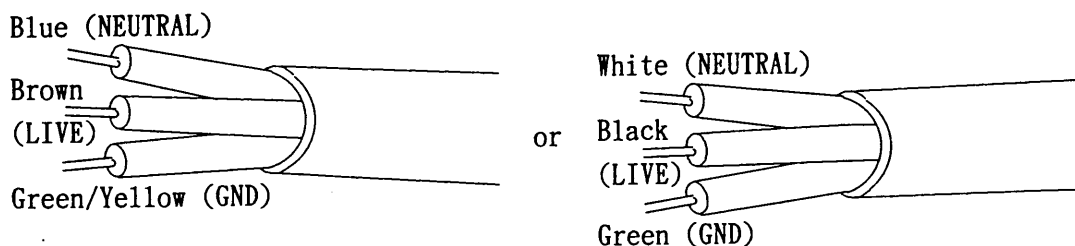

Fig. 1
- Power Cable: to 3-core cable (See Fig. 1 for the colors.)
TO connect the AC plug to the AC power cord, connect the respective pins of the AC plug to the respective core-wires (LIVE, NEUTRAL, and GND) of the AC power cord by referring to the color codes shown in Fig. 1.